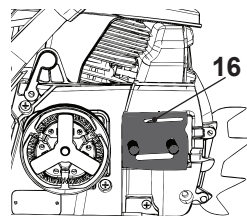

Fig. 46
2. Check the oiling port (16) for clogging and clean if necessary to ensure proper lubrication of the guide bar and saw chain during operation. Use a soft wire small enough to insert into the oil discharge hole (Fig. 46).